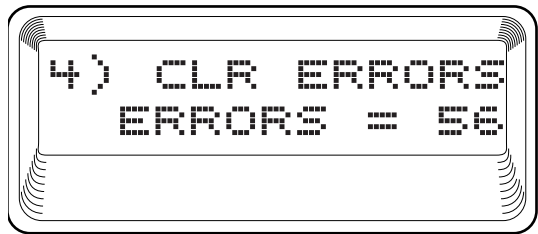

Figure 7-5. Clear Errors Screen
2. To display a total of the 511 errors. If 511 errors are being received, the display is updated accordingly. See Figure 7-5.